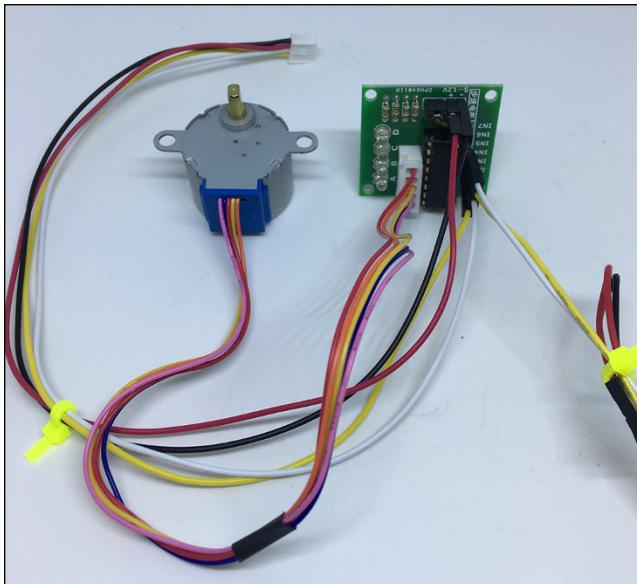

FIGURE 4-20:
- 4.** Plug your 28BYJ-4 stepper motor cable into the UNL2003 driver board connector. It is keyed and only goes in one way. (See Figure 4-20.)